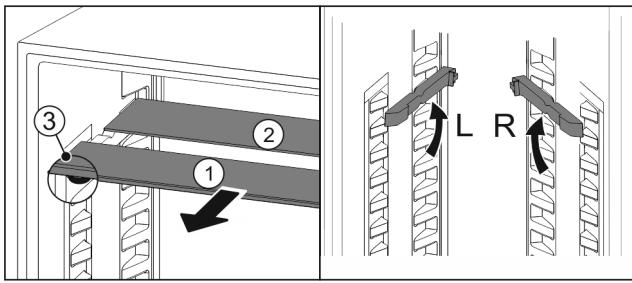

Fig. 121
- Pull the glass panels out *Fig. 121 (1)* from the front, one at a time.
- The glass panel *Fig. 121 (1)* with the trim strip is at the front.
- The stops *Fig. 121 (3)* point downward.